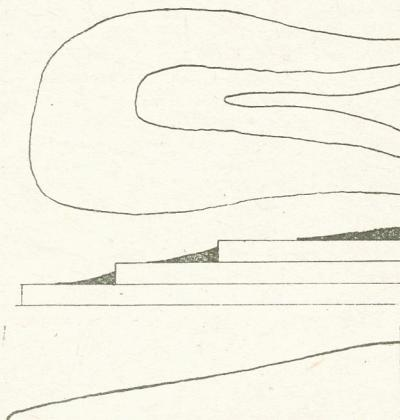

Fig. 1—Showing the building up of rising ground
If then you had further heights in the land, additional layers of wood could be added when worked out to their proper contours according to the map. These 'hills' can be built up by layers of wood of varying thickness, and an idea of them is shown in Fig. 1. At (A) you have the plain contour, at (B) is a section drawing showing the three layers of wood